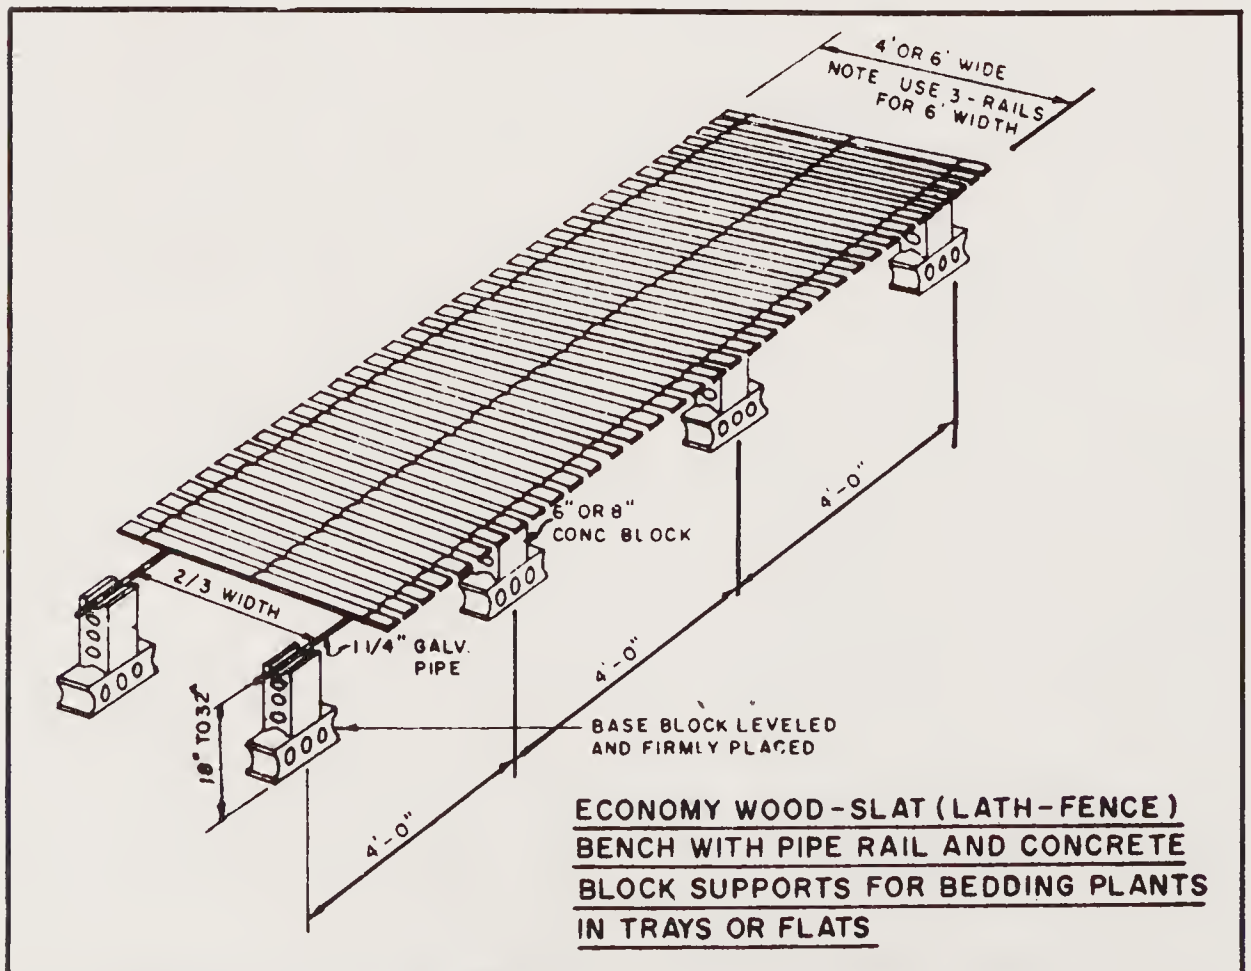

Fig. 1-33. Wood-slat (lathe-face) bench.
**Lath Fence Bench.** One of the least expensive wooden benches is the lath fence (Fig. 1-33). It is ideal for small pots and plants being raised in flats or market packs. The lath fence bench allows good air circulation around the pots. This bench, although inexpensive to construct, is not long lived; it is, however, easily replaced when deterioration requires.